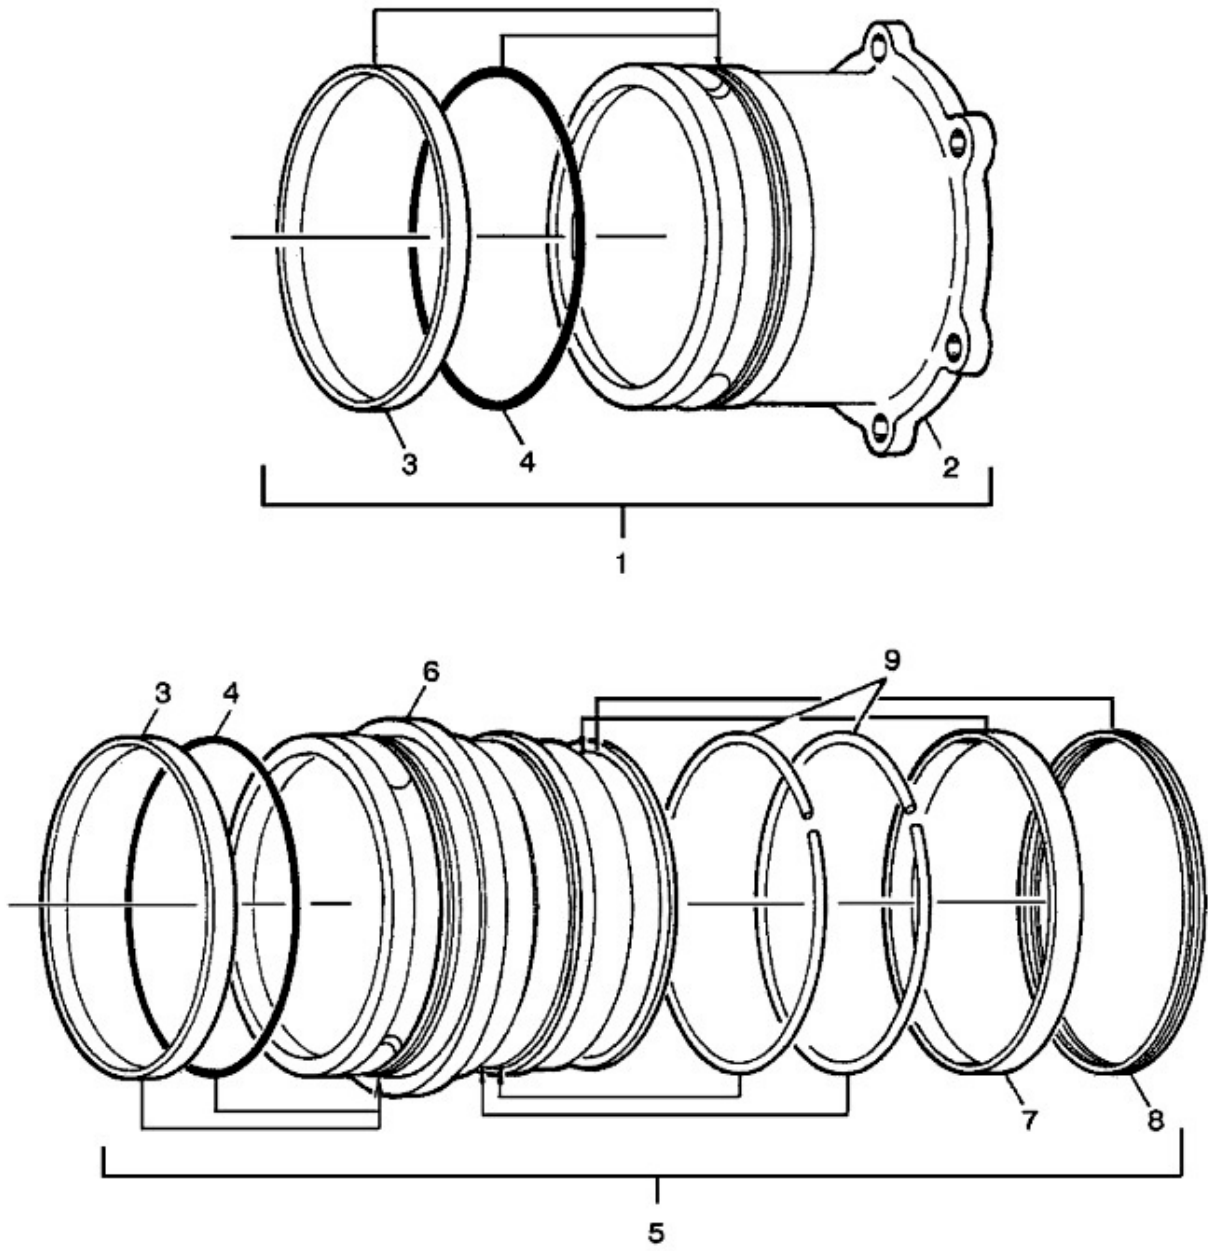

Figure 1
5.1 Reassemble in reverse order of disassembly (Refer to Figure 1), observing the following:
The item numbers of the table are keyed to the exploded view of the units diagrammed in Figure 1.